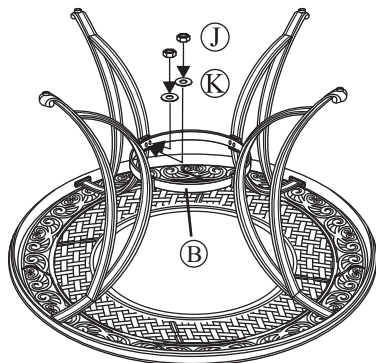

Figure 2
Step 3: Attach a leg (C) to the leg connector (B) bracket by carefully guiding the bolts already in place on the table legs (each leg has two bolts) through the holes in the leg connector bracket. Add a washer and a nut to the end of each bolt as shown in *Figure 2*. **Hand tighten three to four turns only. Do not tighten completely.** Repeat on other three legs.